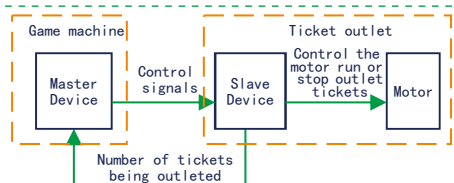

Figure 2
3. The relationship of the Master inputting control signal, the Slave outputting signal, and motor status is shown in Figure 3. The workflow is shown in Figure 2.